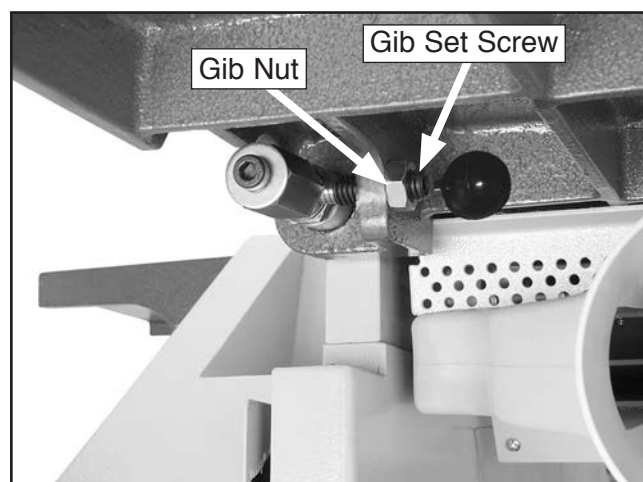

Figure 88. Outfeed table gib control.
3. Repeat **Steps 1-2** with the outfeed table gib control (**Figure 88**).